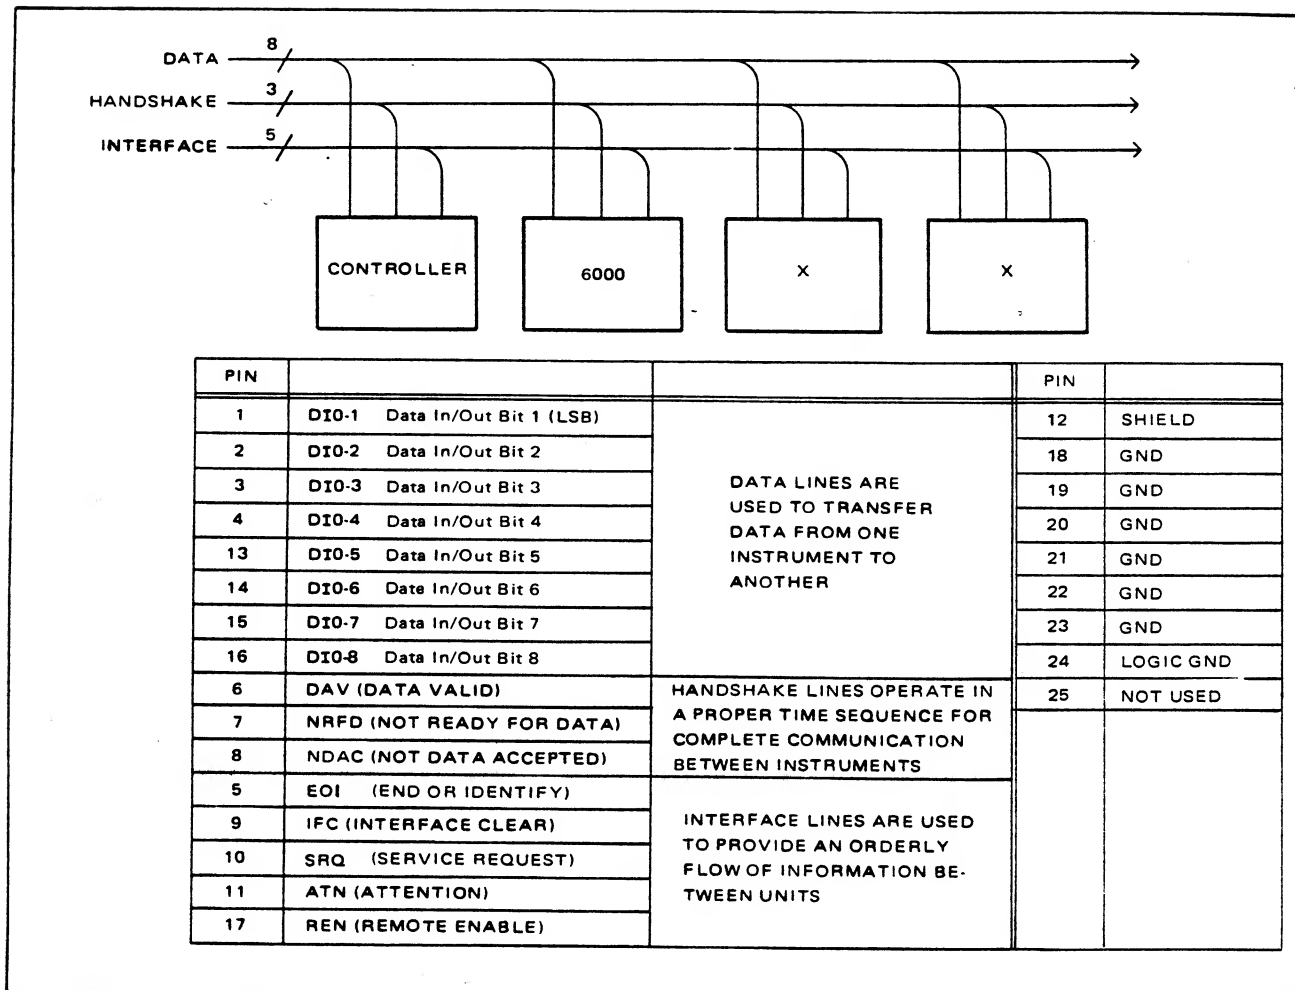

Figure 3.10 - Interface Signal Pin Assignments
3.4.2.1 The Interface Board provides for remote programming of all controls and the output of data from the 6000. Inputs and outputs for the option are made via a 24 pin connector located on the rear panel. The pin location, line identification, and operation of the option are in compliance with IEEE-STD-488-1975. The Interface Board provides interface capability with other instruments and with a controller also utilizing the "interface bus" structure. Connector contact assignments are shown in Figure 3.10. The IEEE-488-1975 subsets available in the Series 6000 are listed in Table 3.8.
3.4.3.2 The signal lines, as shown in Figure 3.10, consist of three functionally separate sets: Data, Handshake and Interface.